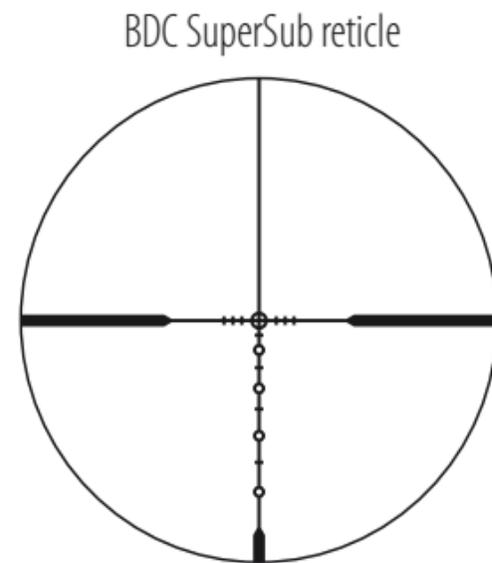

Fig. 3
(1) Focusing
- 1 Look through the eyepiece with your eye positioned about 4 in. (10 cm) away from the eyepiece to see the BDC SuperSub reticle (Fig. 3).